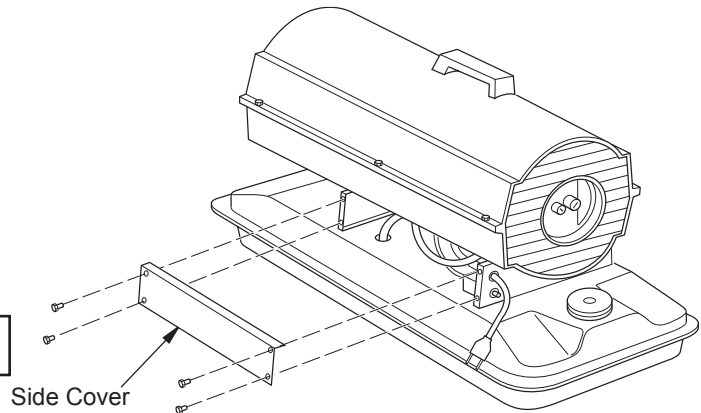

Figure 1 - Removing Cover
1. Using the 5/16" nut driver or socket wrench, remove the four side cover screws (see Figure 1).